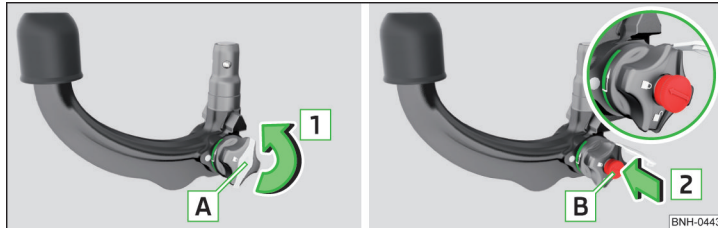

Fig. 104 Remove cap from the lock / insert key into the lock
- Remove the cover **A** from the lock in the direction of the arrow **1** » Fig. 104.